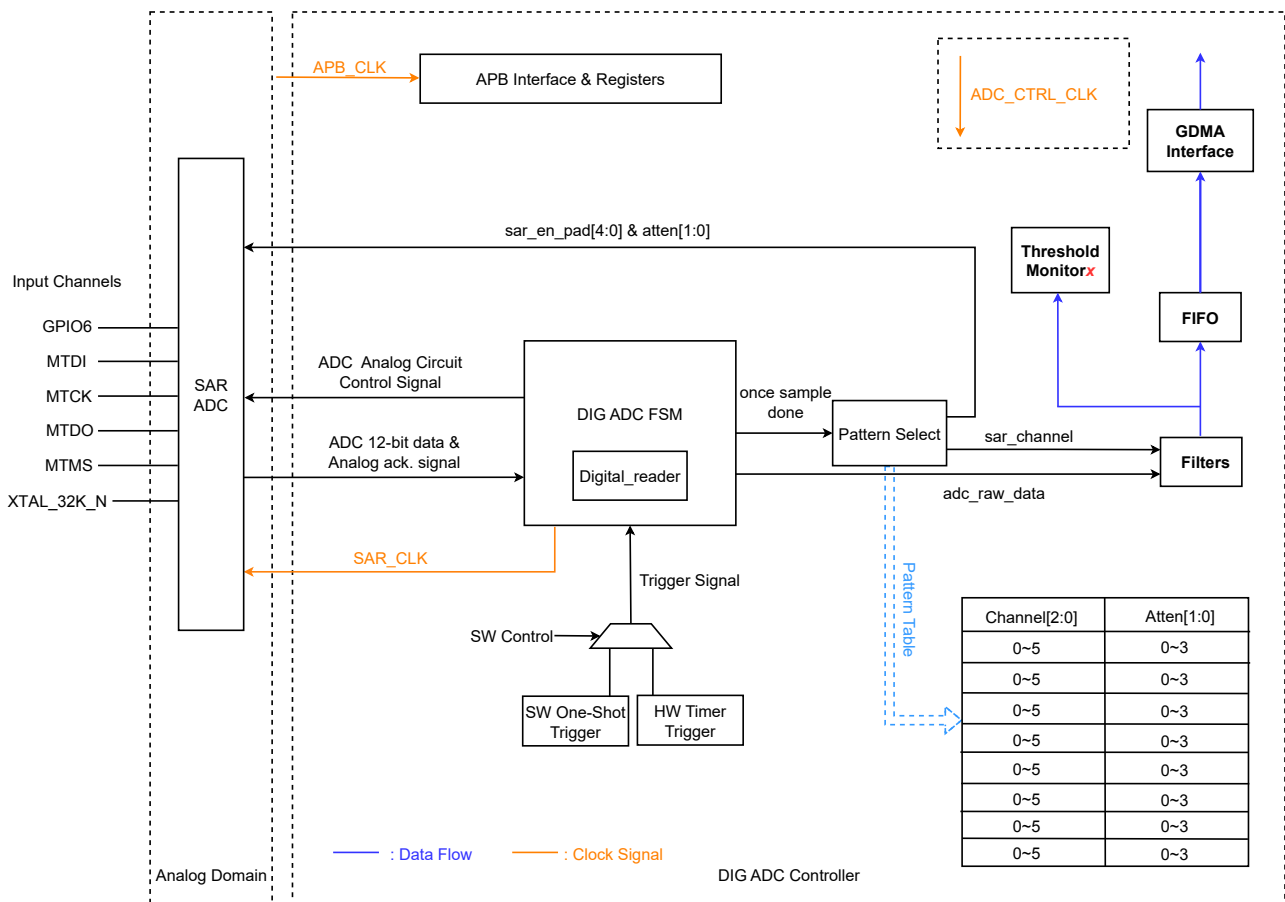

Figure 41.4-1. SAR ADC Architecture
The major components of SAR ADC and their interconnections are shown in Figure 41.4-1.
As Figure 41.4-1 shows, the SAR ADC module contains the following major functional blocks:
- Transfers the conversion result to the filter. Then the threshold monitor transfers the filtered result to memory via GDMA (see Figure 41.4-1).